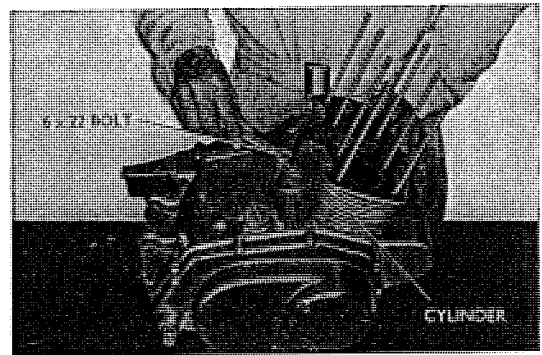

Fig. 3.38 Inspection cylinder
1. Remove the cylinder as in Section 3. 2. 1 and the 6×22 bolt retaining the cylinder; the cylinder can be removed from the stud bolt. (Refer to Fig. 3.38)